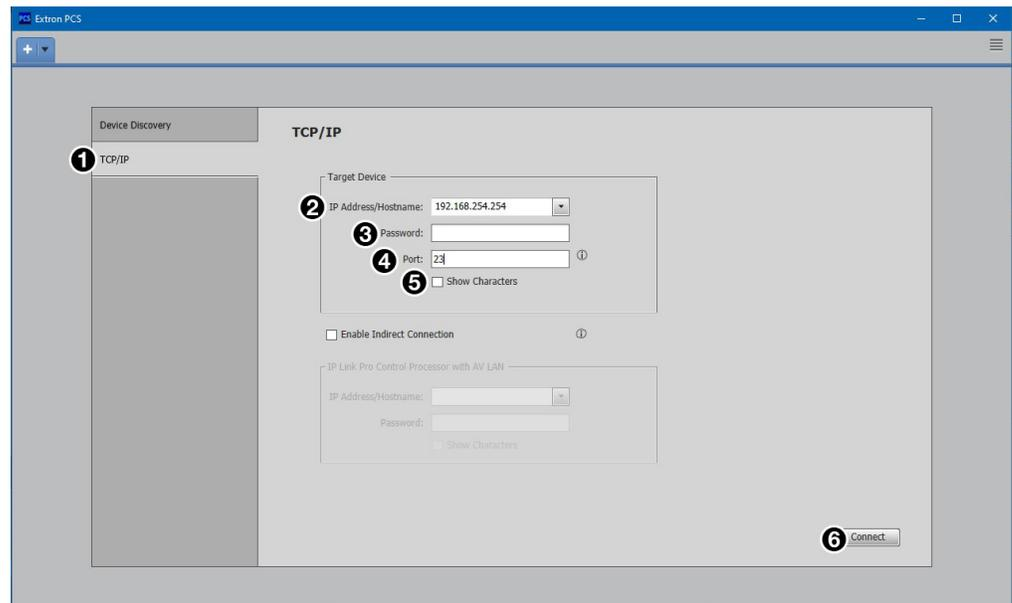

Figure 30. Comm Port Selection Windows
1. Click the **TCP/IP** tab (see figure 30, ①).
2. In the **IP Address/Hostname** field (②), enter the IP address of the desired device.